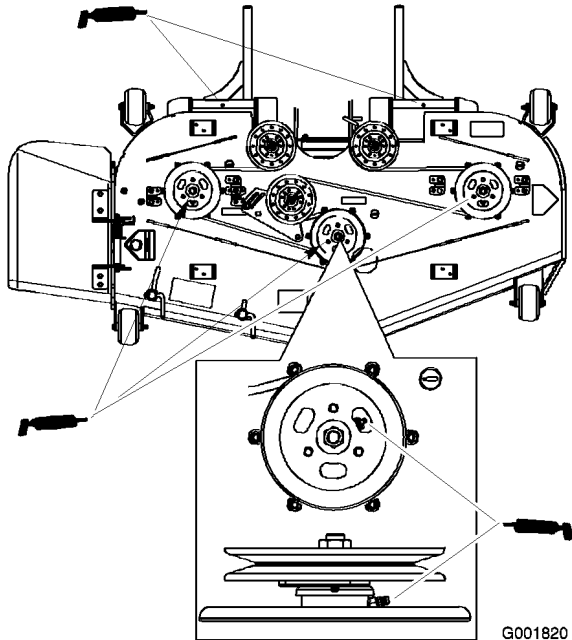

Figure 35
4. Grease the three spindle bearings under the pulleys until grease comes out the lower seals (Figure 35).
5. Grease the fittings on the push arms (Figure 35).